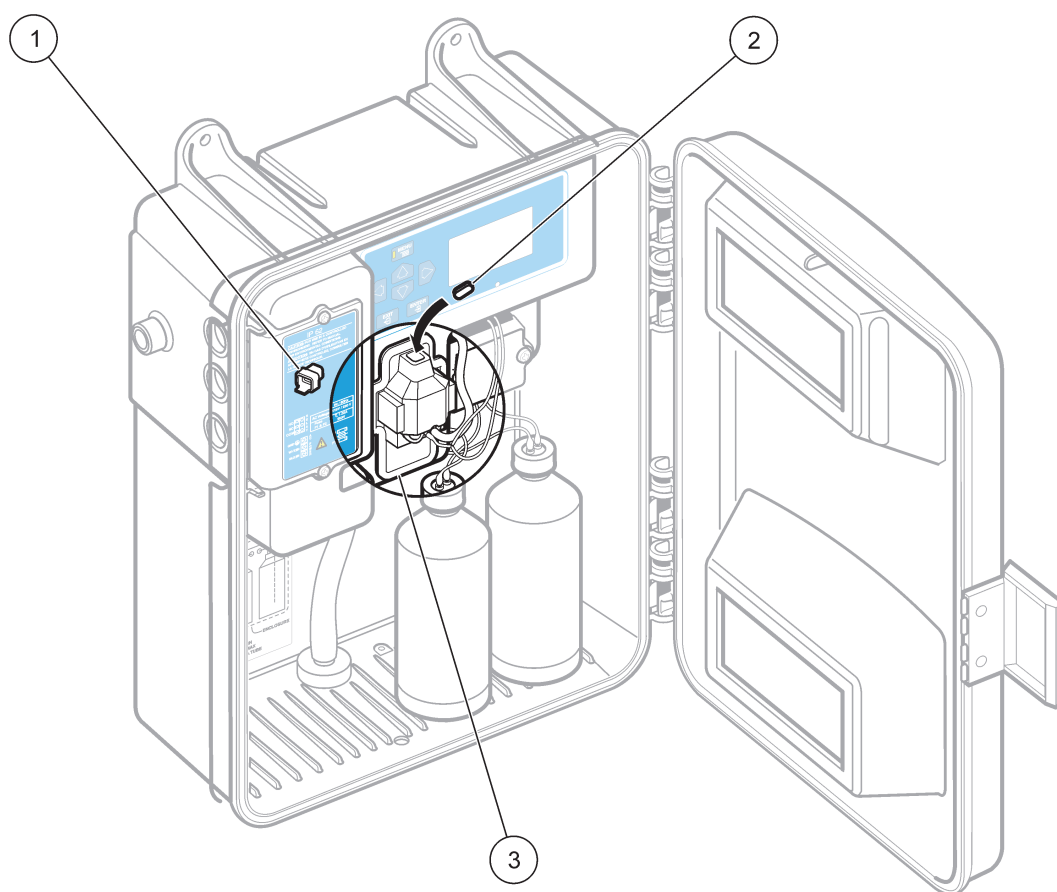

Figure 19 Installing the stir bar
2. Drop the stir bar into the hole. Refer to Figure 19. The bar should rest on the bottom of the vertical bore.